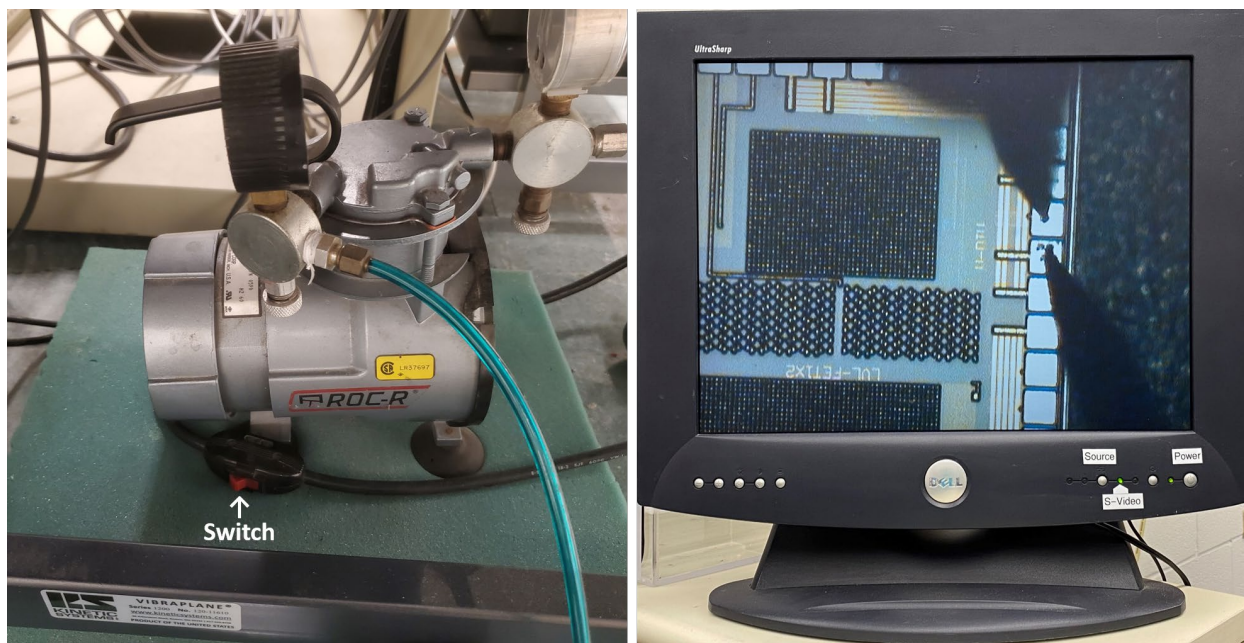

Fig. 2.3. (a) Vacuum pump and (b) TV monitor.
- 2.9 Turn on the vacuum pump under the vibration-isolation table. The switch is on the power cord right next to the pump as shown in Fig. 2.3(a).
- 2.19 When the sample is in focus under the microscope, its image should also be displayed by the TV monitor on the shelf left of the probe station. Make sure it is on and with "3:S-Video" selected as the source [Fig. 2.3(b)].